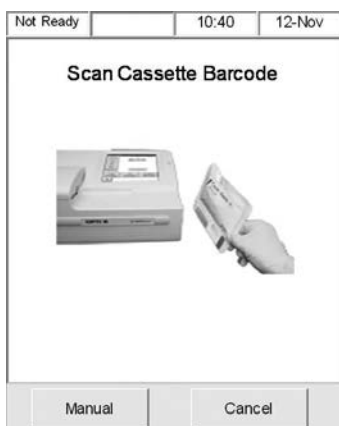

Fig. 2-16 Scan cassette bar code
- Scan the bar code on the OPTI cassette package by holding it 2-3 inches (5-8 cm) from the bar code scanner located on the bottom right-hand corner of the analyzer until the bar code labeled **Scan A** is recognized (Fig. 2-16).